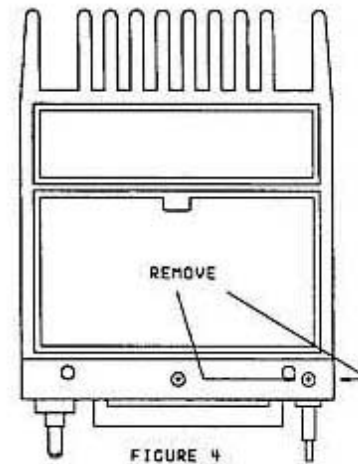

FIGURE 4
8. Remove the brass colored screw that is mounted on the front panel chassis above the Power switch. Figure 4.
9. Remove the brass colored screw that is mounted on the front panel chassis to the right of the microphone jack. Figure 4.